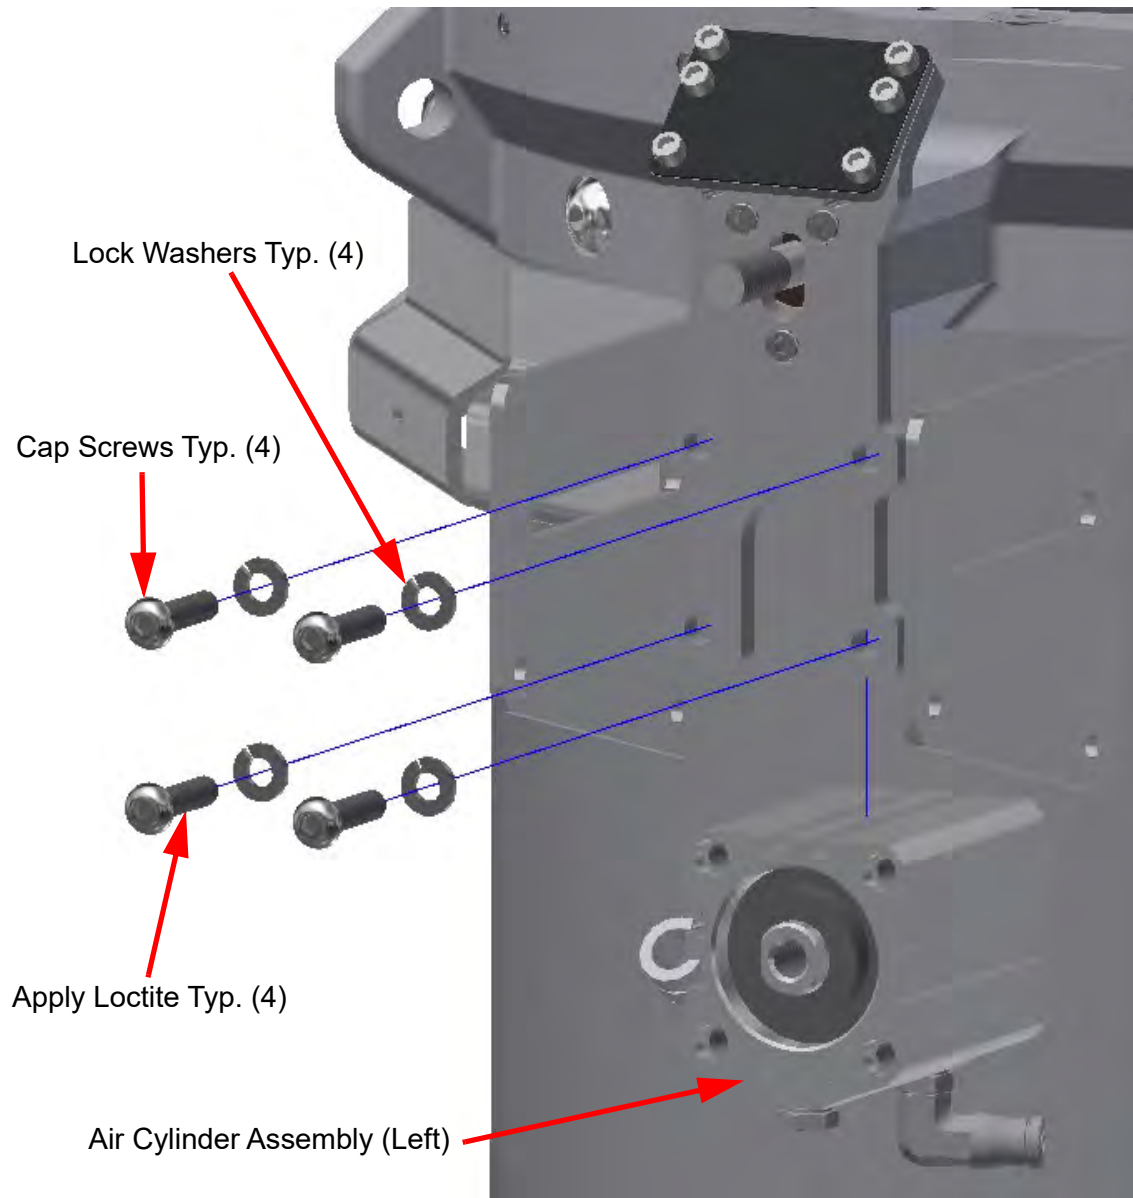

Figure 8-14 Assemble Components
6. Apply blue Loctite 243 or equal to button head cap screws as shown in Figure 8-14.
7. Mount air cylinder assembly to base tube guide plate assembly using (4) button head cap screws and lock washers.